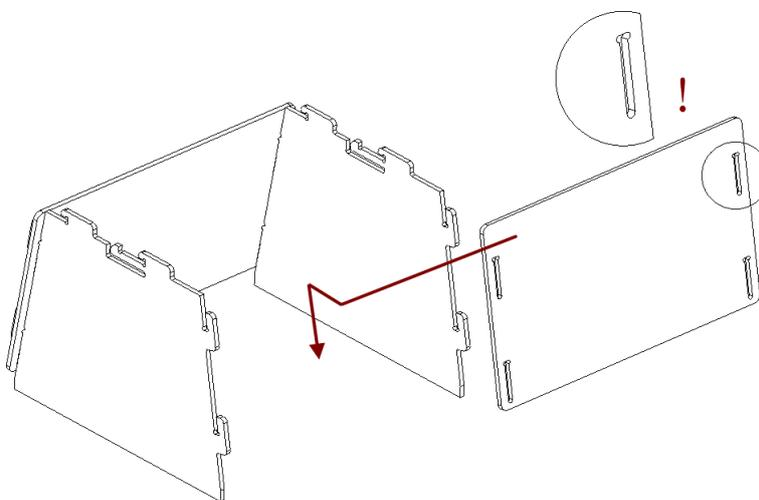

Figure 142: Assembling the back wall.
2. Install the back wall in the same way (see Figure 142).